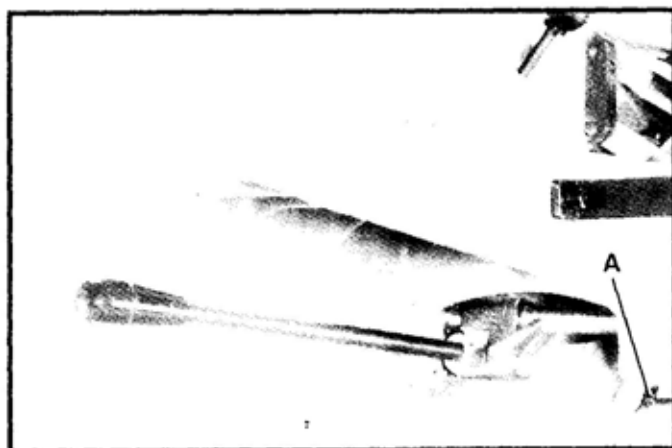

Fig. 47
"Gibs" are provided to take up any play that may develop between the mating dovetailed ways of the base and the infeed and outfeed tables, due to excessive wear. The gib for the infeed table is shown at (A) Fig. 47. Proper gib adjustment is necessary for the functioning of the jointer. The gib was adjusted at the factory and should not require further adjustment. However, if it ever becomes necessary to adjust the gib, due to excessive wear, proceed as follows.